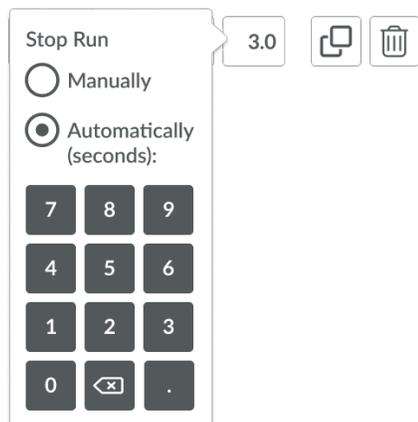

Figure 32. Numeric Keypad to Define the Sample Run Time. In this mode, the system automates the run by applying a pre-defined pressure duration for each sample.
1. Input the run time parameter for a sample by tapping on the text box and using the numeric keypad (Figure 32) to define the time (in seconds). Tap anywhere outside the keypad to dismiss it.